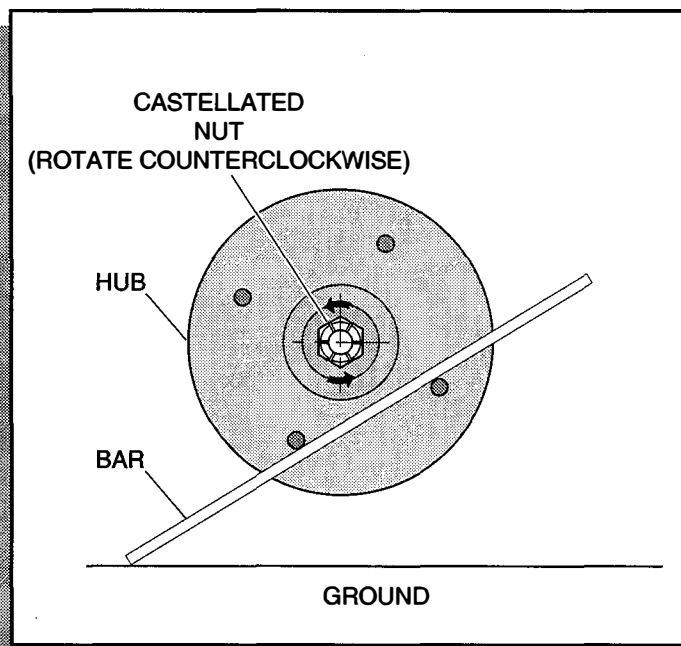

Fig. G-8 Removing Castellated Nut
(See Fig. G-8 "Removing Castellated Nut" on page G-36)
Remove the dust cap (1) to gain access to the castellated nut (2) and the cotter pin (3). Remove the cotter pin and remove the castellated nut as shown. **Do not apply the brake** when removing nut. (Ref. Fig. G-8) Remove the washer (4) and adapter (5).